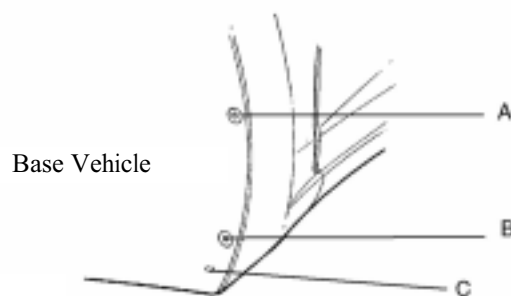

Fig. B-1
1. Identify existing mount holes A, B and C (Fig. B-1).